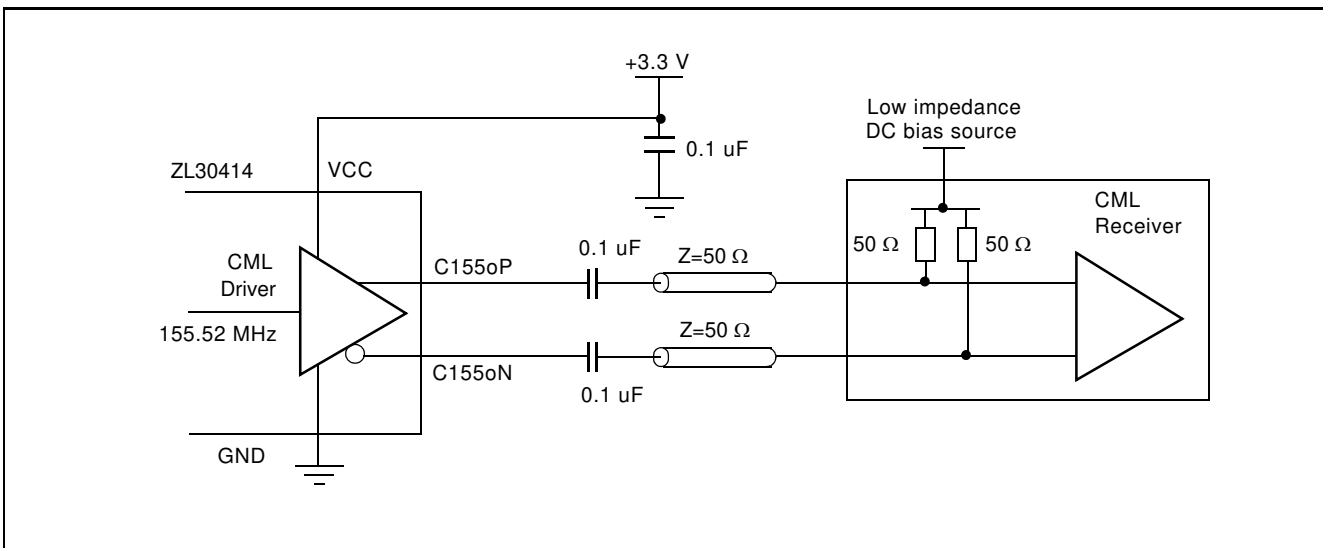

Figure 9 - CML to CML Interface
- Note 3: CML outputs terminated with  $Z_T = 50\ \Omega$  resistors connected to low impedance DC bias voltage source (see Figure 9)